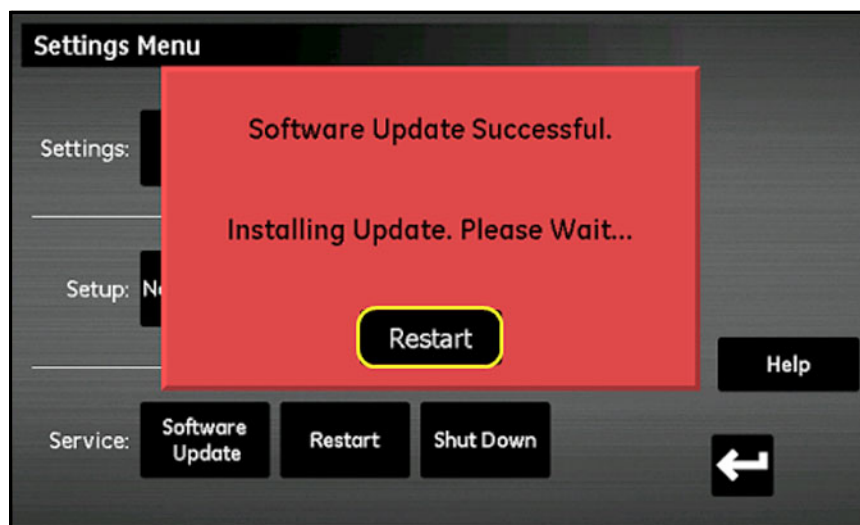

Figure 90: Restart Screen
- After the software update is complete, the meter prompts you to restart the meter (see *Figure 90* below). Tap the **Restart** button to reboot the moisture.IQ.